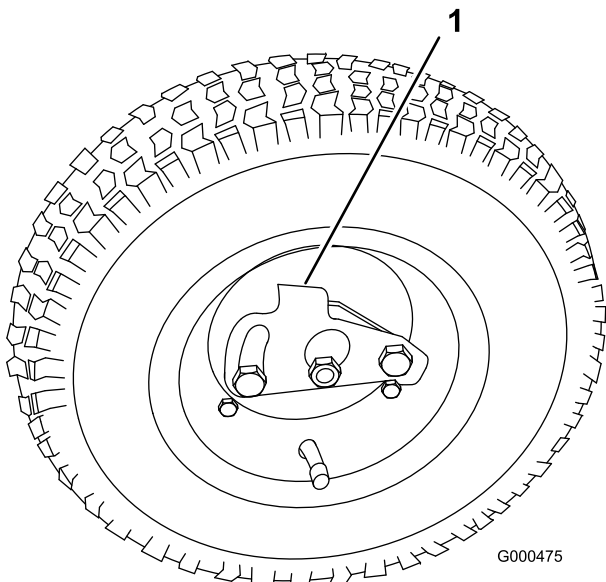

Figure 8
5. Slide the wheel onto the axle (Figure 8).
6. Pivot the wheel locking clip away from center of the wheel allowing it to slide farther onto the axle (Figure 8).